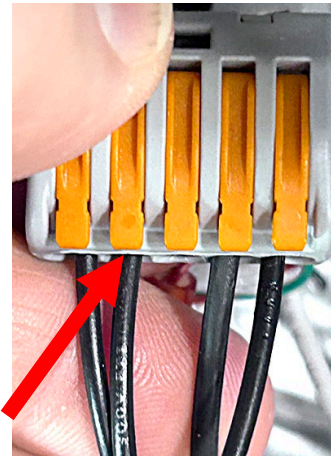

Figure 53
56. Insert the stripped end of the **BLACK** wire into a Wago snap connector with other **BLACK** wires (see Figure 53).